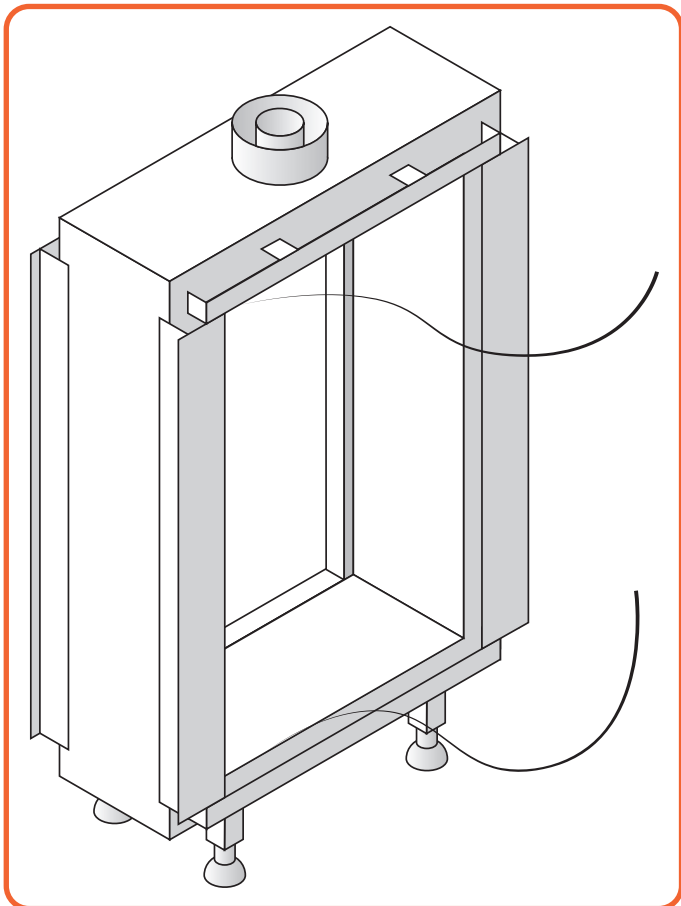

Figure 11.11 - Remove glass cords
- Remove the glass cords. (See **Figure 11.11**)